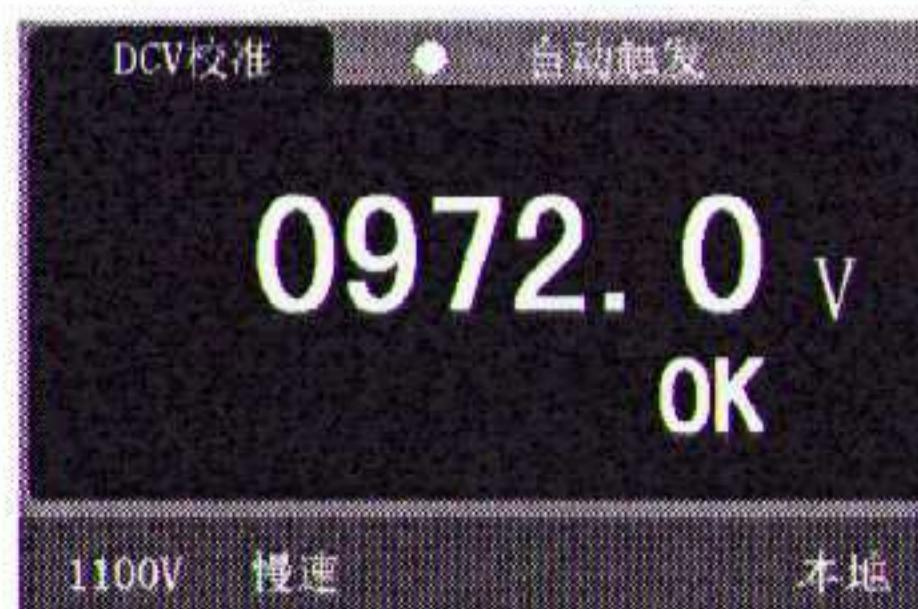

Figure 8- 2 DC voltage calibration is completed
4. Enter -1.6V according to the prompt of zone 3 in Figure 8- 1. Press Enter key after the measured value is stable.
5. Enter -2.2V according to the prompt of zone 3 in Figure 8- 1. Press Enter key after the measured value is stable.
6. Enter 2V according to the prompt of zone 3 in Figure 8- 1. Press Enter key after the measured value is stable.
1. Enter 0V according to the prompt of zone 3 in Figure 8- 1. Press Enter key after the measured value in area 5 is stable.
2. Enter 20V according to the prompt of zone 3 in Figure 8- 1. Press Enter key after the measured value is stable.
2. Enter 200V according to the prompt of zone 3 in Figure 8- 1. Press Enter key after the measured value is stable.
2. Enter 1000V according to the prompt of zone 3 in Figure 8- 1. Press Enter key after the measured value is stable.
At this point, the DC voltage calibration is completed. The calibration completion interface is shown in Figure 8- 2. At this time, you can press any of the basic function keys to exit the calibration function.